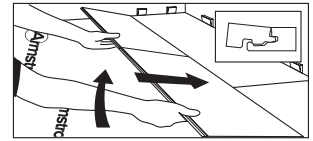

Figure 15
- Angle up and push forward until the boards lock together (Fig. 15).